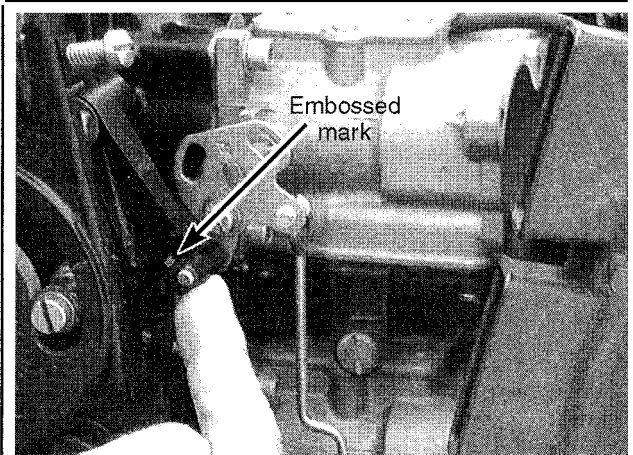

Fig. 130 The embossed mark on the throttle cam must align with the center of the roller just as the throttle shaft begins to move
- + See Figures 130, 132 and 133